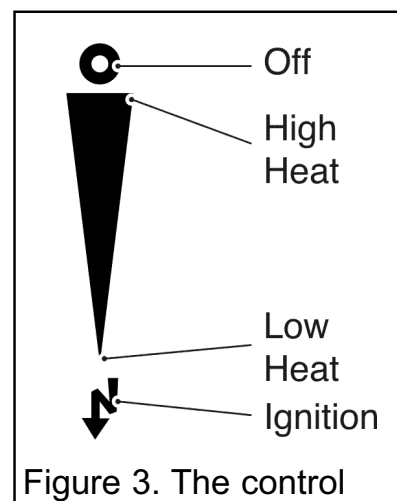

Figure 3. The control
The slide control is shown in figure 3.
**3.** If low heat is required, release the control knob. The control knob will automatically spring up to the low heat position shown in figure 3 (See note i below). If for any reason the slider control does not spring up, raise the slider to the off (O) position (Topmost position) and contact your installer. Do not use the fire until the problem has been rectified.
**4.** For a higher heat level slide the control knob upwards. The burner flames and heat output will gradually increase until the control knob reaches the high heat position shown in figure 3. When the control knob reaches the high heat position you will feel a check to its movement. **Do not slide the control knob above the high heat position unless you want to turn the fire off** (See note i below).